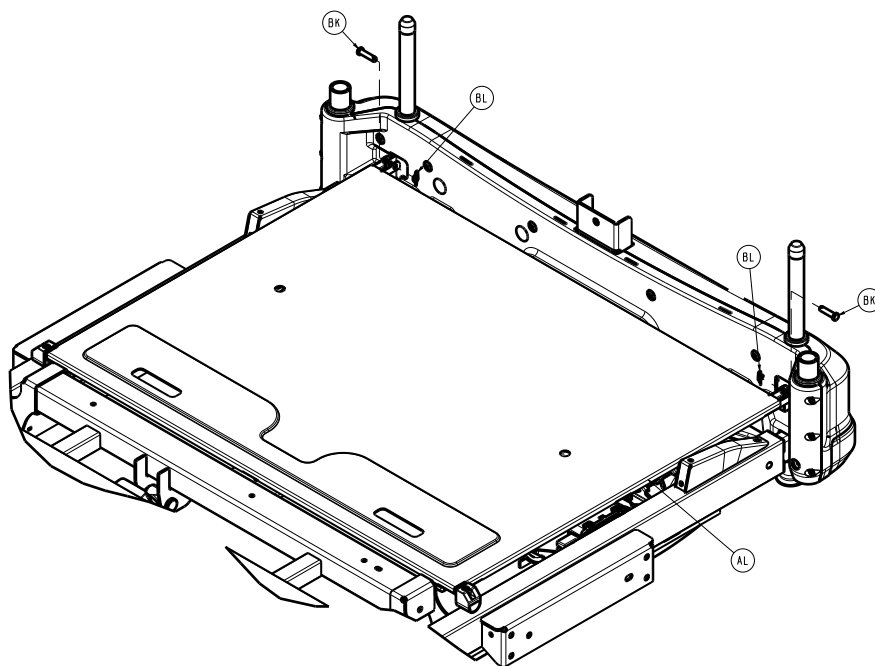

Figure 15 – Replacing the cover
4. Using needle nose pliers, remove the two ruer clips (BL) and clevis pins (BK) that secure the bed extender pan (AL) to the foot frame (Figure 15). Save the ruer clips and clevis pins.
4. Using needle nose pliers, remove the two rue clips (BL) and clevis pins (BK) that secure the bed extender pan (AL) to the foot frame (Figure 15). Save the rue clips and clevis pins.